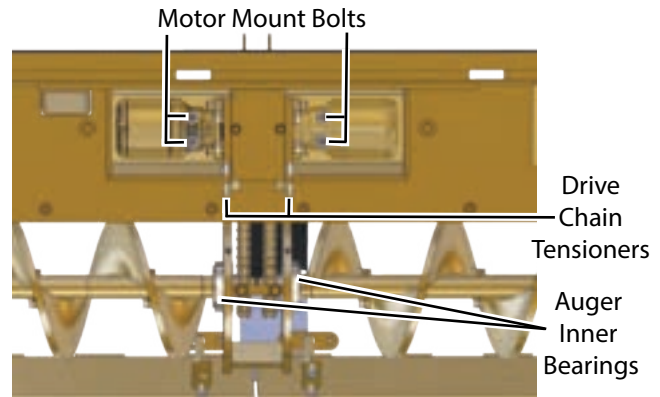

Figure 5-36. Auger Inner Bearings
6. Loosen the two (2) bolts on each auger motor mounting bracket, then loosen the two (2) drive chain tensioners. **(Figure 5-36)** The auger motors should slide down as you loosen the tensioners (tap with a rubber mallet if needed).
9. Check inner auger bearings. Replace if faulty. **(Figure 5-36)**